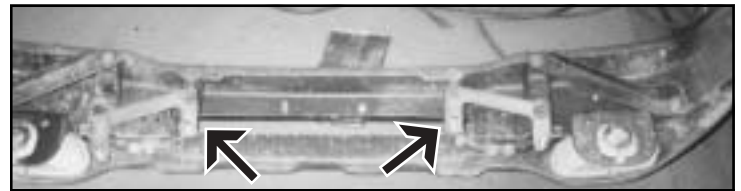

FIG. 13—Front Bumper Brackets
- Install the front bumper relocation brackets on the front bumper with the studs facing out and fasten with stock nuts (Fig. 13). Do not tighten at this time.